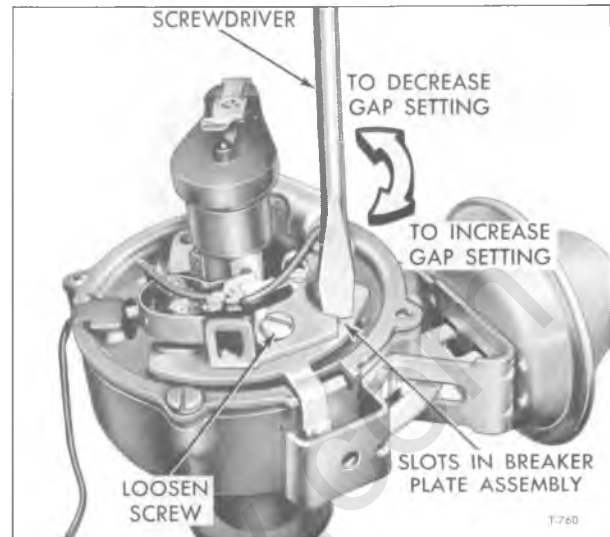

Figure 8—Setting Point Opening
5. Use a screwdriver to move point support to obtain a 0.019" opening for new points (or 0.016" opening for used points) (fig. 8).